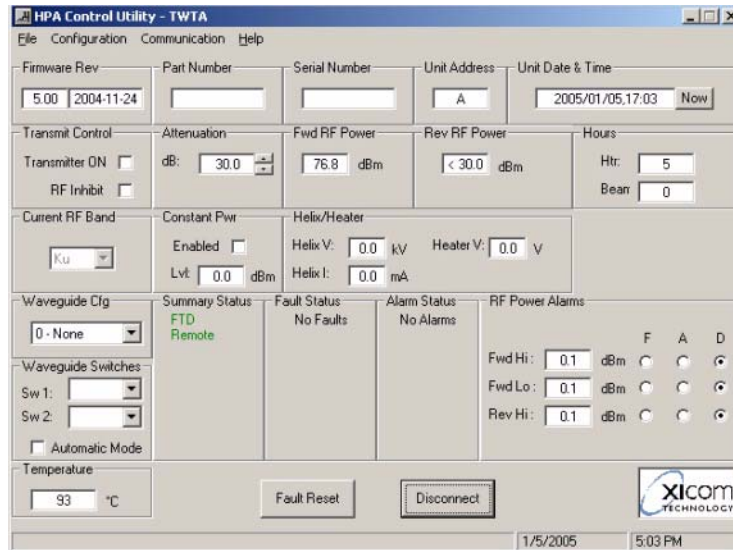

Figure 3, Primary User Interface - Connected
2. Refer to Figure 3 on page 7. Once communication has been established, the Firmware Revision, Part Number, Serial Number, RS485 Address, Unit Date & Time, Attenuation setting, Forward RF Power, Reverse RF power, Waveguide configuration, Waveguide switch positions (if applicable), heater and beam hours are reported. If High Voltage is on, the current Helix voltage and current are also displayed.